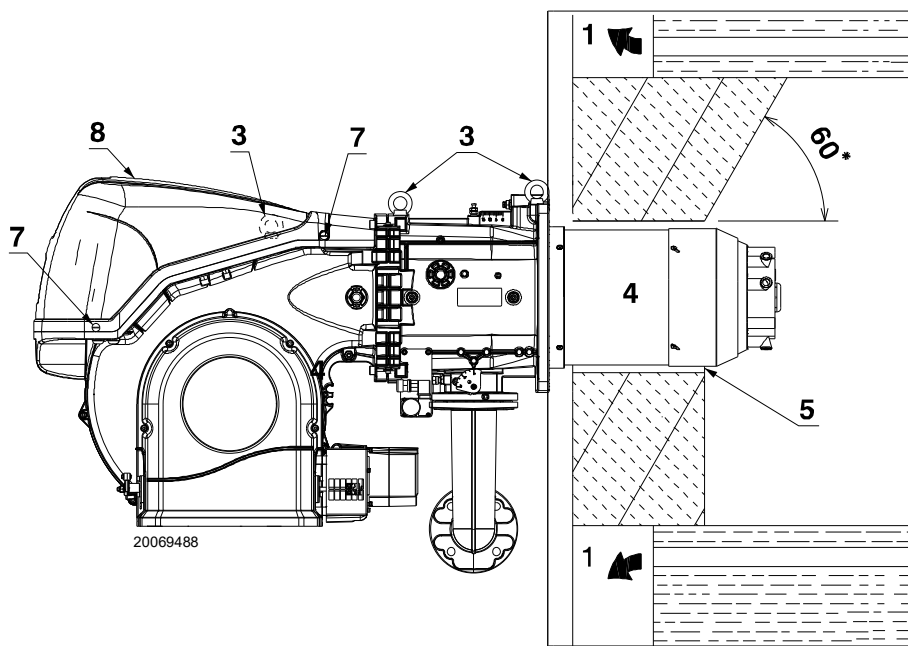

Fig. 11
Prepare a suitable lifting system using the rings 3)(Fig. 11), after removing the fixing screws 7) of the casing 8).
- Fit the heat insulation supplied onto the blast tube 4)(Fig. 11).